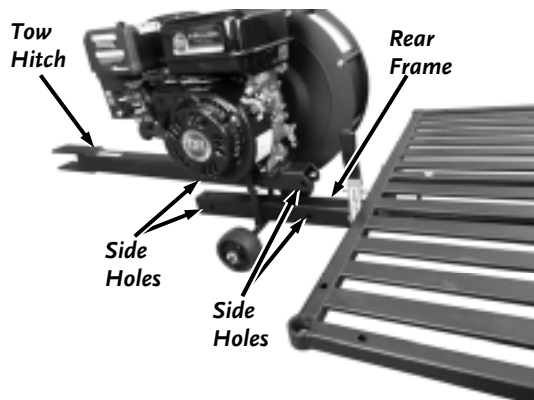

Figure 13
2. Position the Power Unit at the front of the Rear Frame with the Tow Hitch facing forward (**Figure 13**).